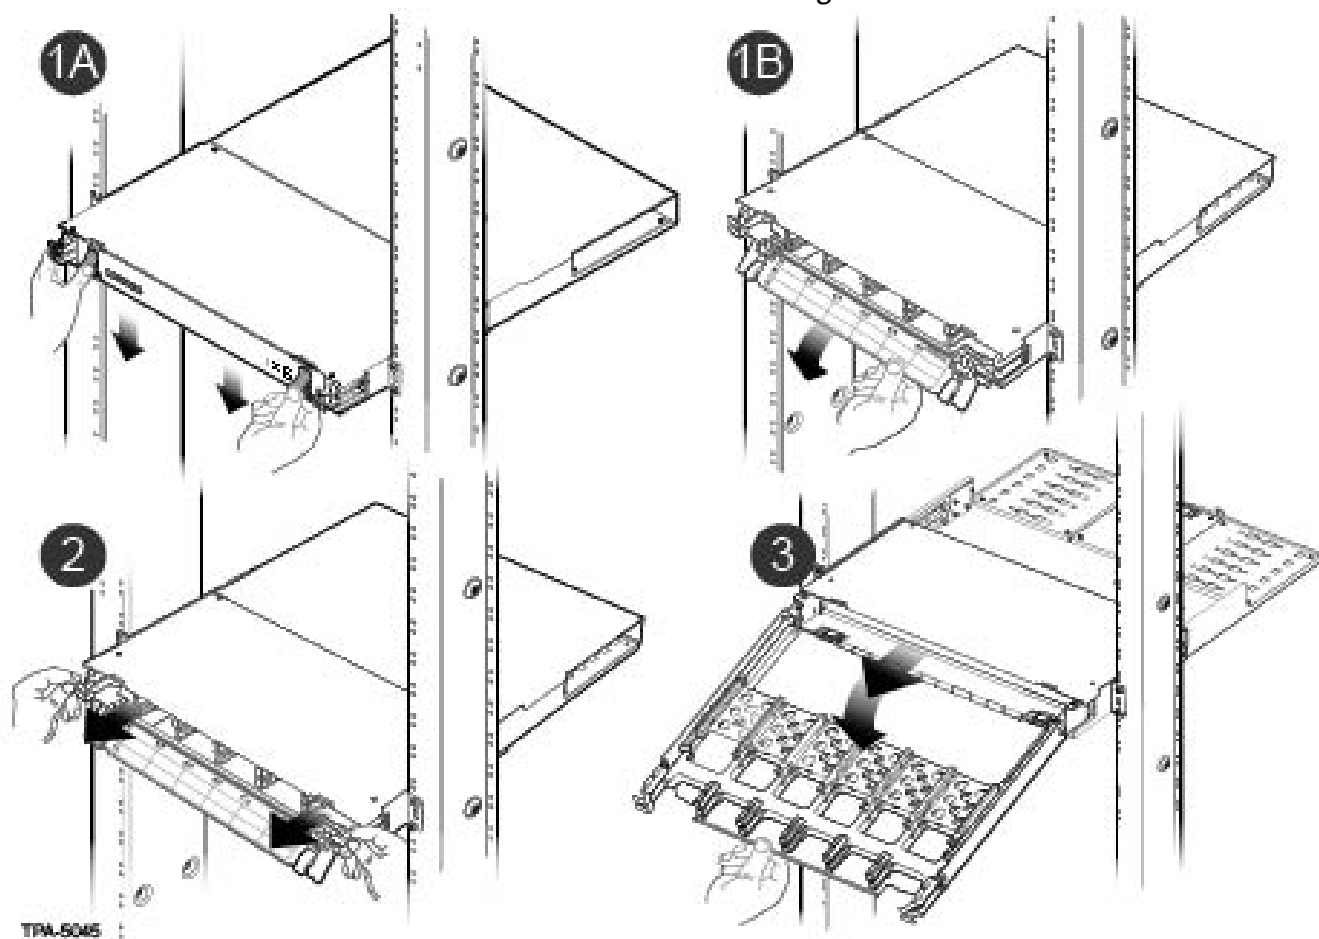

Figure 18— Lower Tilt-down Drawer
**Step 2:** Using tabs on the side of the drawer, lift and pull out drawer horizontally until reaching hard stops (Figure 18).
- Step 1:** Press latches down to open and lower front door (Figure 18).